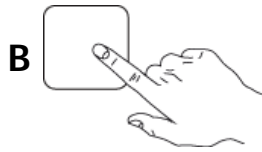

Fig.15
- 4- Press one of the available cycles by pressing button "B". (Fig.15)